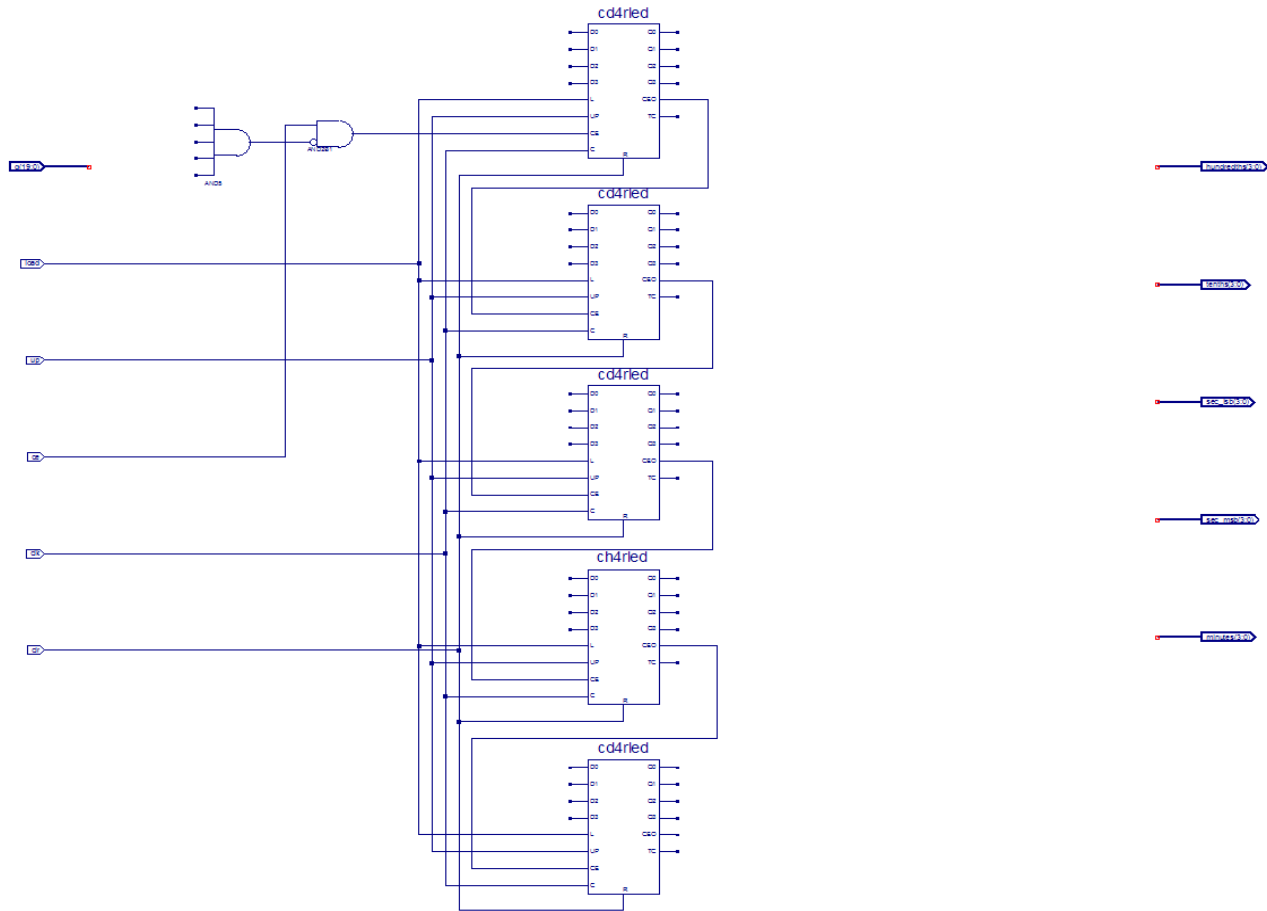

Figure 3-10: Partially Completed time_cnt Schematic
5. Place three more cd4rled symbols on the schematic by moving the cursor with attached symbol outline to the desired location, and clicking the left mouse button. See Figure 3-10.
Refer to Figure 3-10 for placement locations.
4. Connect the scalar input IO markers to each of the five counter blocks and connect the CEO pin of the first four counters to the CE pin of the next counter as shown in Figure 3-10.